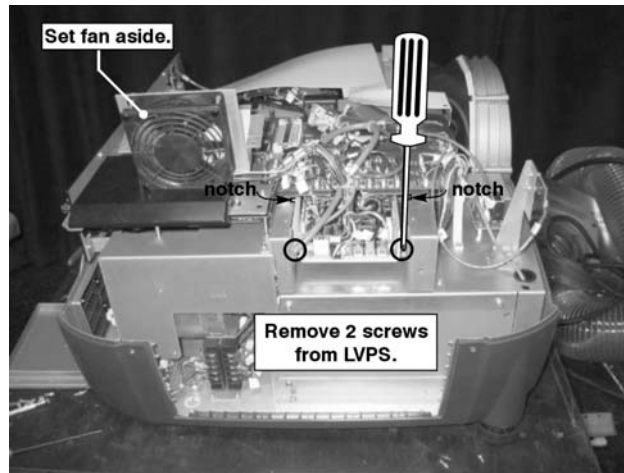

Figure 59. Remove LVPS Cooling Fan Bracket
3. Remove the large, side plastic air duct that contains the main filter – three (3) screws.
4. Remove the two (2) screws securing the LVPS cooling fan bracket. Lift the assembly out and set it aside on top of the unit. (Figure 59.)
5. Remove the two (2) screws securing the LVPS assembly to the chassis.